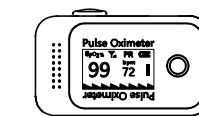
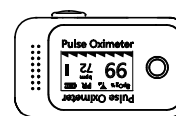

Figure 7
Figure 8
- Press the "POWER/FUNCTION" button to power on the device. Press it again to rotate the display orientation, as shown in Figure 7 and Figure 8.